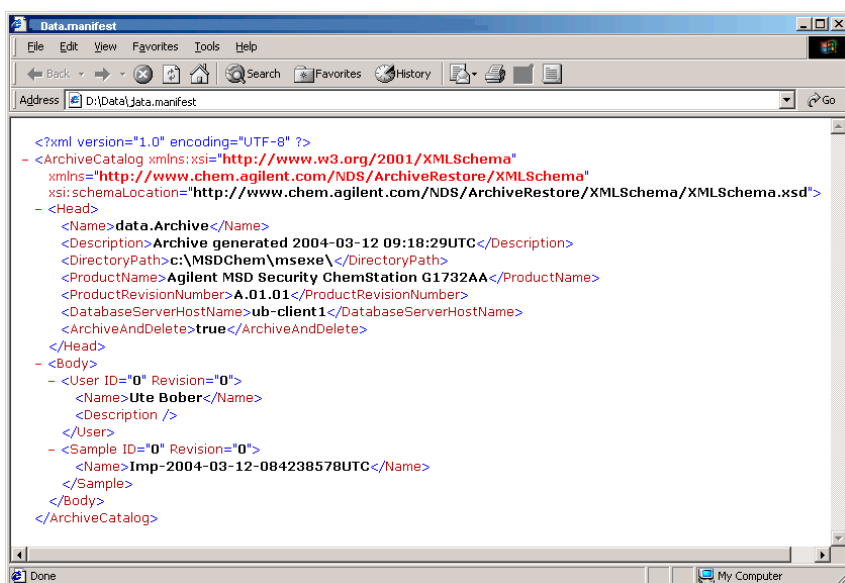

Figure 18. Example of XML file.
- A catalog file (`<archive name>.MANIFEST`) in XML format for each archive unit describing its content (for example, for data handling in archive management or knowledge engineering systems). See Figure 18.